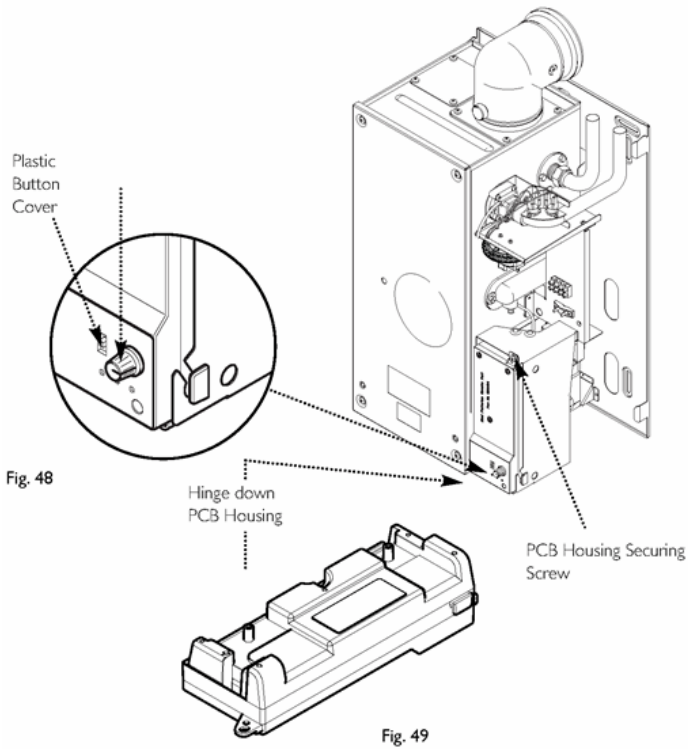

Fig. 48 & Fig. 49
#### 15.4 PCB (Figs. 48 & 49)
1. Pull the control knob off the spindle and remove the plastic button cover. Refit them onto the new PCB (Fig. 48).